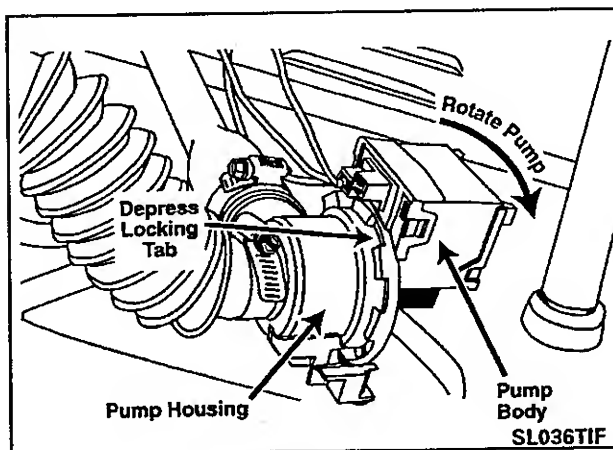

Figure 6-7
5. Rotate the pump assembly in a counter-clockwise direction. The support legs of the pump are slotted to engage in keyed slots in the base. Reverse the steps to re-mount the pump (*Figure 6-7*).
The pump assembly can also be disassembled without removing the hoses from the pump (*Figure 6-7*).